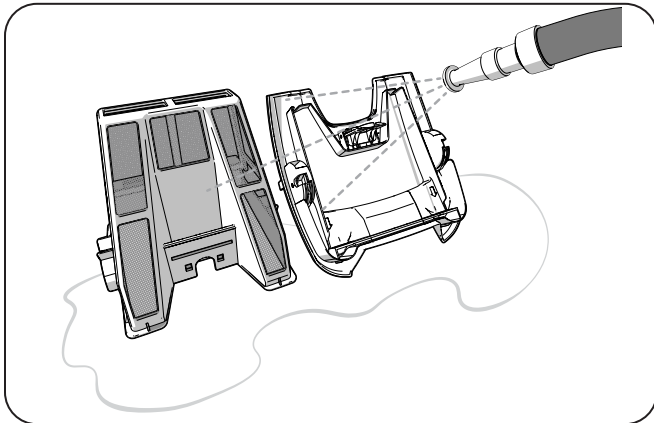

Figure 12. Rinse the Filter Canister
- Using a hose with clean water, rinse the filter canister and lid to remove all debris (Figure 12).